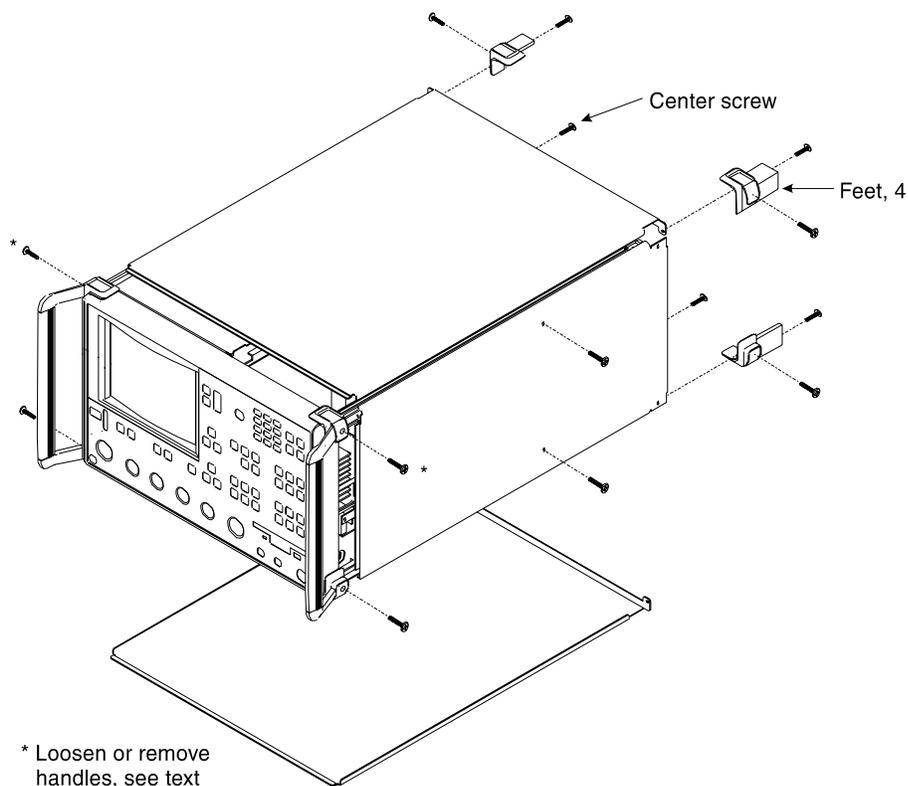

Figure 8-1. Exploded View of 371XXC Chassis Covers
- Remove the feet from the two top corners at the rear of the 371XXC (Figure 8-1).